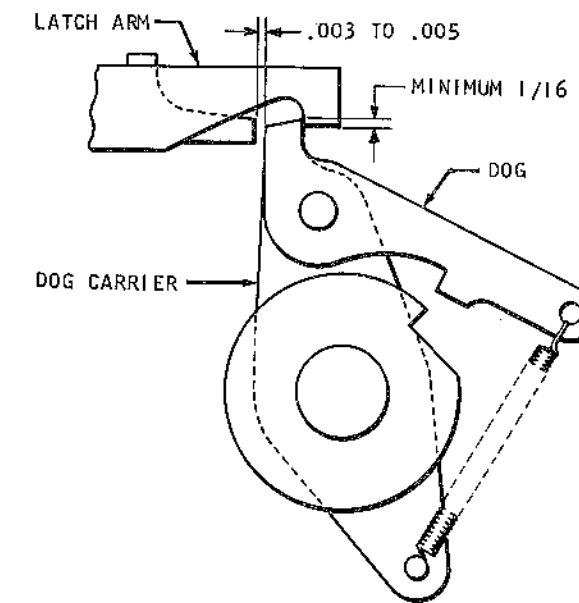

Figure 30. Keeper to Dog Clearance
3. Turn the machine to the high dwell on the clutch cam. Check for a minimum of 1/16" overlap of clutch latch arm on the dog and dog carrier (Figure 30).
4. Check for .003" to .005" clearance between the dog carrier and the keeper. Peen or stone the keeper to adjust (Figure 30).